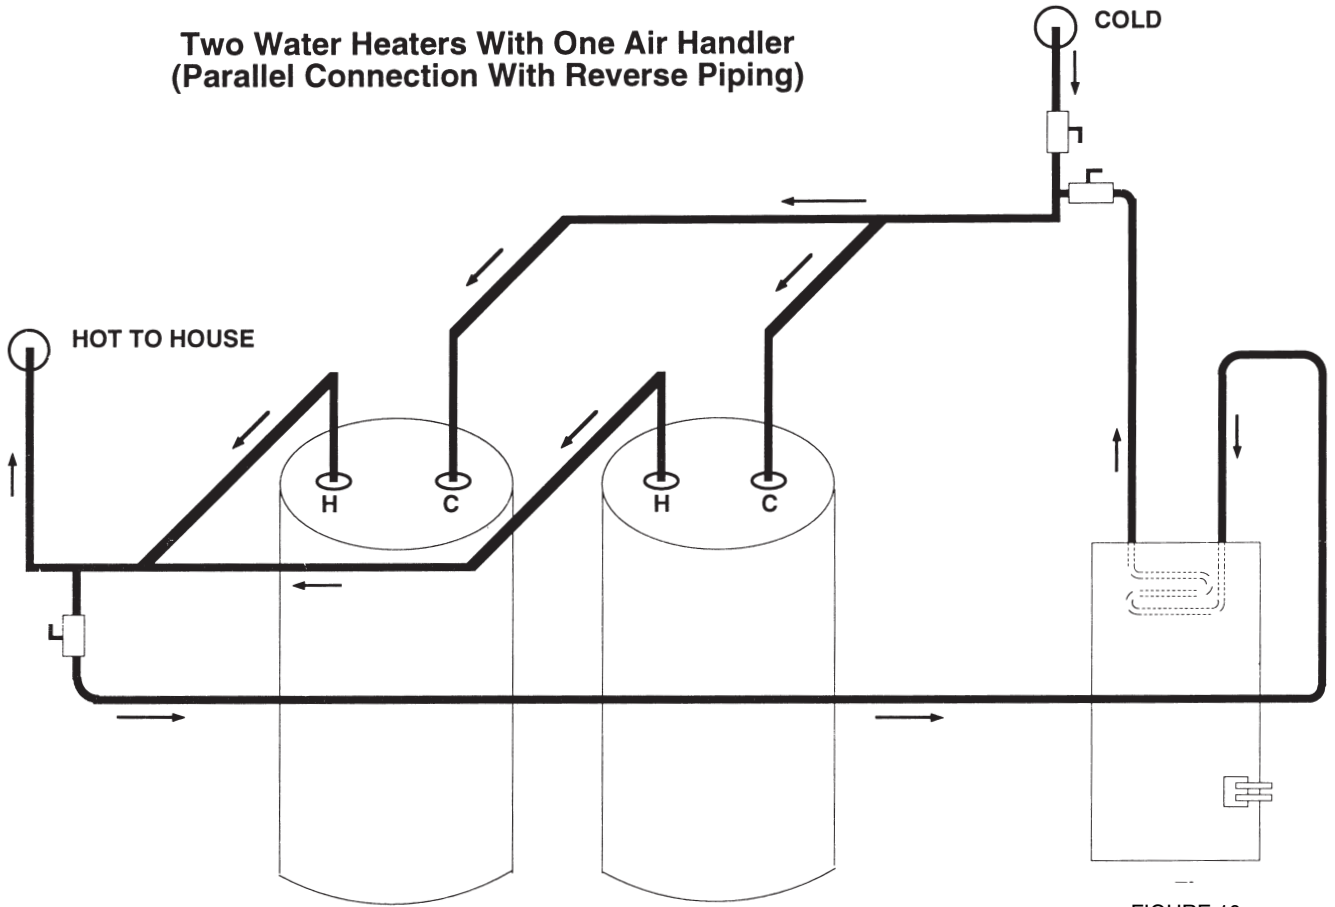

FIGURE 10
**Multiple water heaters:** When sizing requirements call for more than one water heater per air handler, water heaters may be connected together according to the water heater manufacturer's instructions. (See figure 10 page 9)